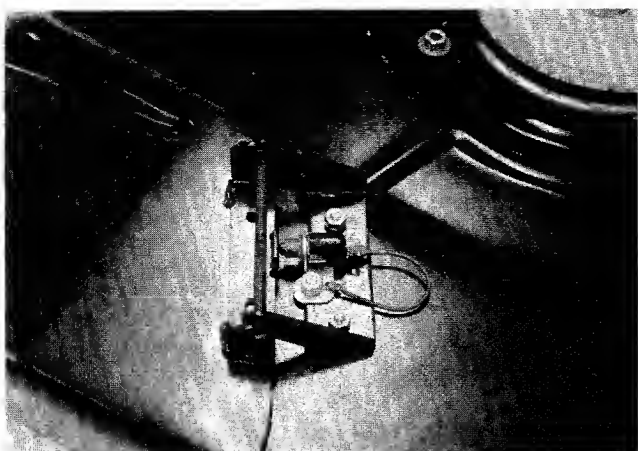

FIGURE 33.
11. Unplug the orange wire from the chute safety switch. Then lift the deck off the rider. See figure 33.